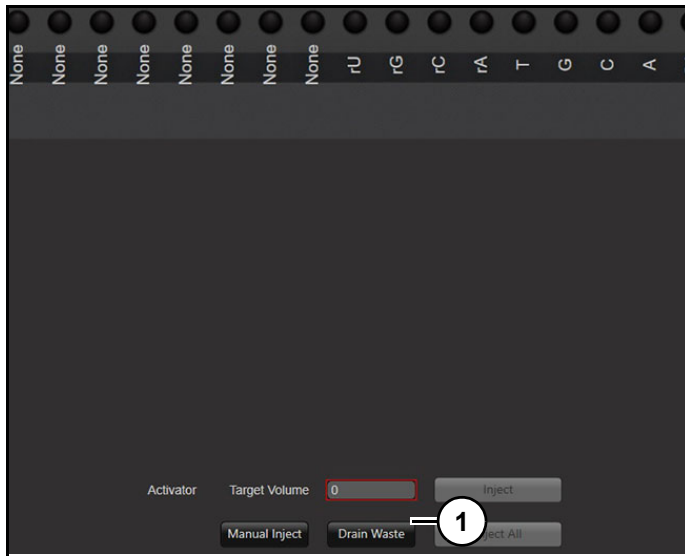

Figure 20
2. Click "Drain Waste" (1) (Figure 20).